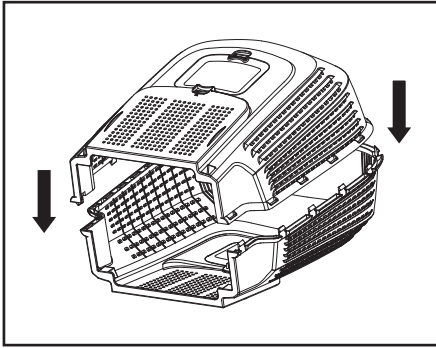
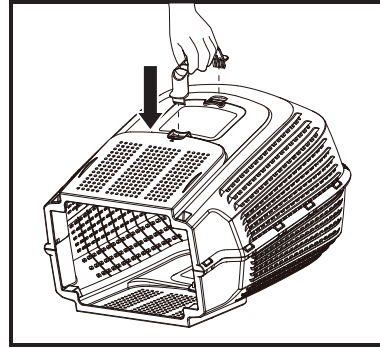

Fig. 4
Fig. 5
1. Clip the rubber lip of the grass box net into the plastic tray of the grass box (Fig. 4). Insert the handle into the holes and make sure it is firmly in place (Fig. 5).